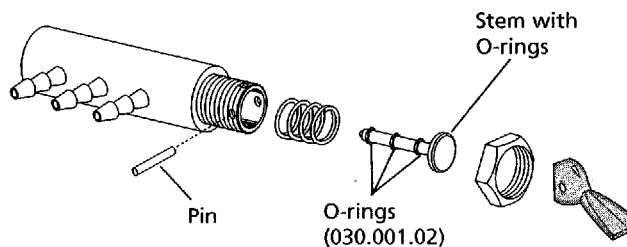

Figure 58. Selector valve assembly (A-dec part no. 33.0104.01)
3. Remove the pin, then remove the stem (see Figure 58).